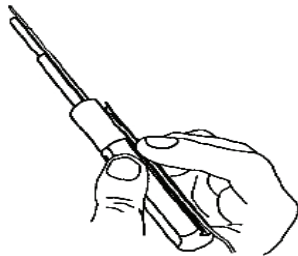

Figure 16. Inserting Wire into Removal Tool
- b. Place wire of contact to be removed into removal tool, with tip facing connector insert (Figure 16).